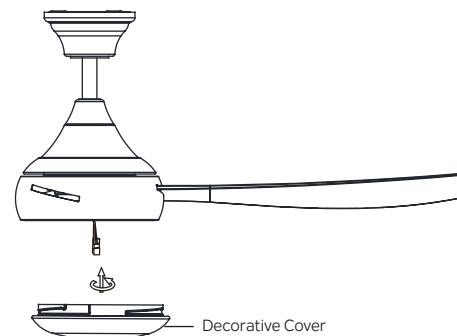

Fig. 21
**Step 1.** Raise the decorative cover up to the fan, seat against the mounting plate, and turn clockwise into the mounting plate until snug, **DO NOT OVER TIGHTEN.** (Fig. 21)